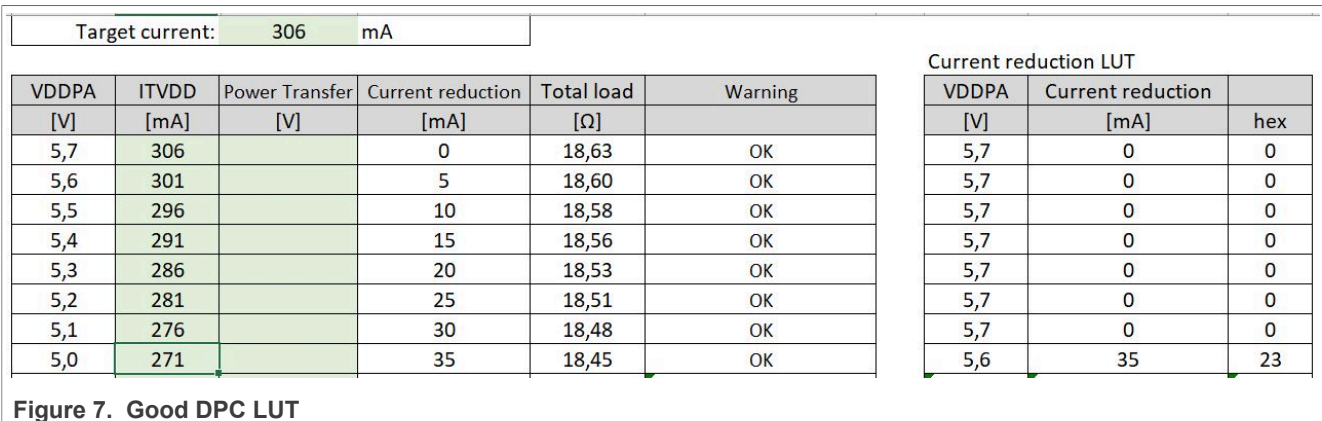

Figure 7. Good DPC LUT
The Figure 7 shows the calibration with the lowest possible current but using the same target current. It can be seen that the load slowly decreases versus VDDPA, and that the first LUT entry is 35 mA for the entry at VDDPA = 5.6 V to get 271 mA at VDDPA = 5.0 V.
**Note:** The excel sheet to allow a more detailed DPC calibration as shown in Figure 7 can be found in [\[4\]](#).